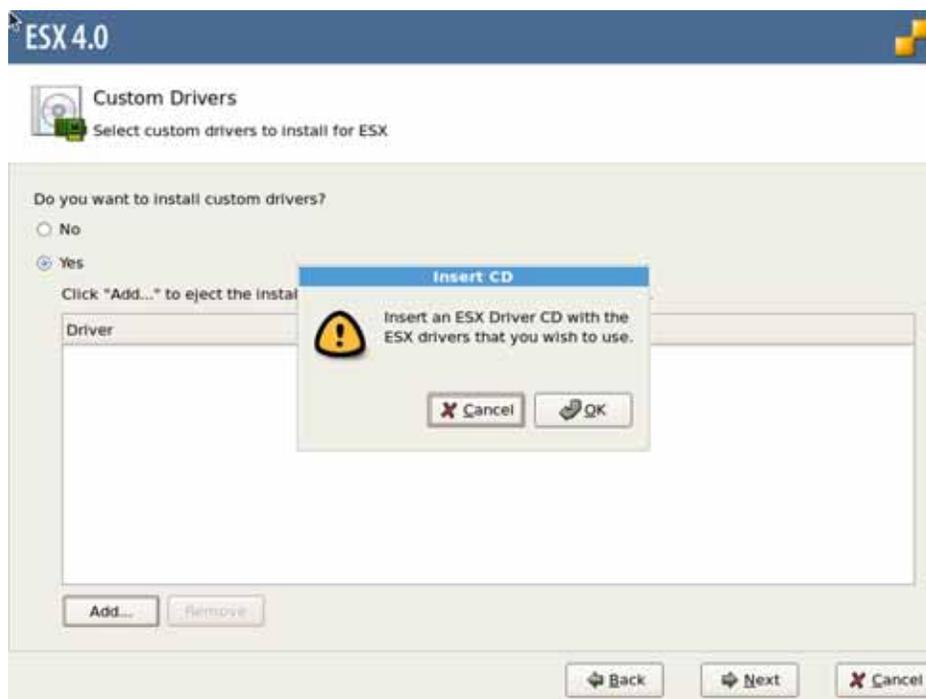

Figure 17 ESX Installer — Specify Custom Drivers
- Step 8** On the Custom Drivers dialog, in the Load Custom Drivers section, click *Yes*. This step displays a popup that alerts you to select the drivers that you want to install., as shown in Figure 17.